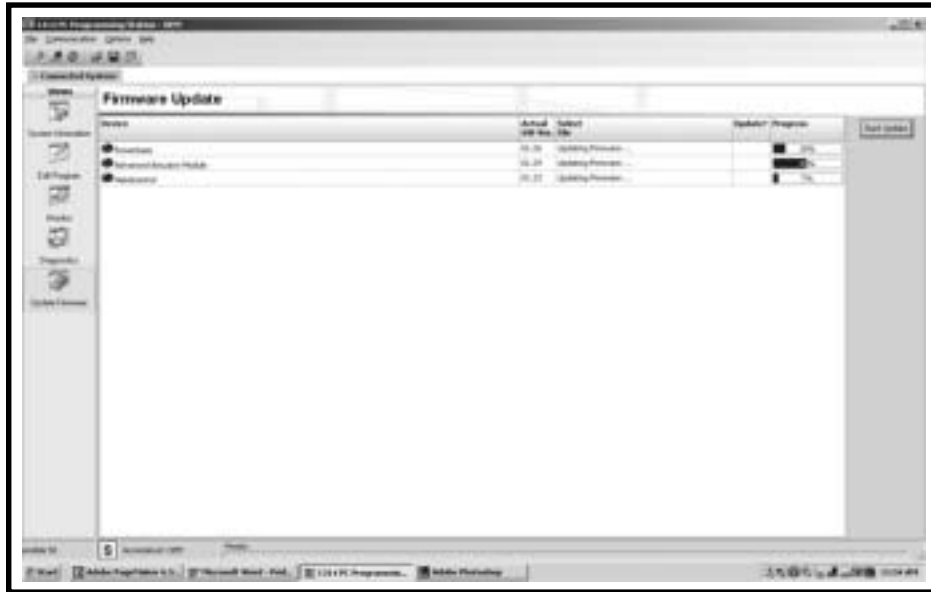

Figure 47. Firmware Update Status Screen
14. Click on the Start Update Icon in the top right of the screen to begin the firmware update. The progress of the update is illustrated by the blue status bar in the progress chart. See figure 47.